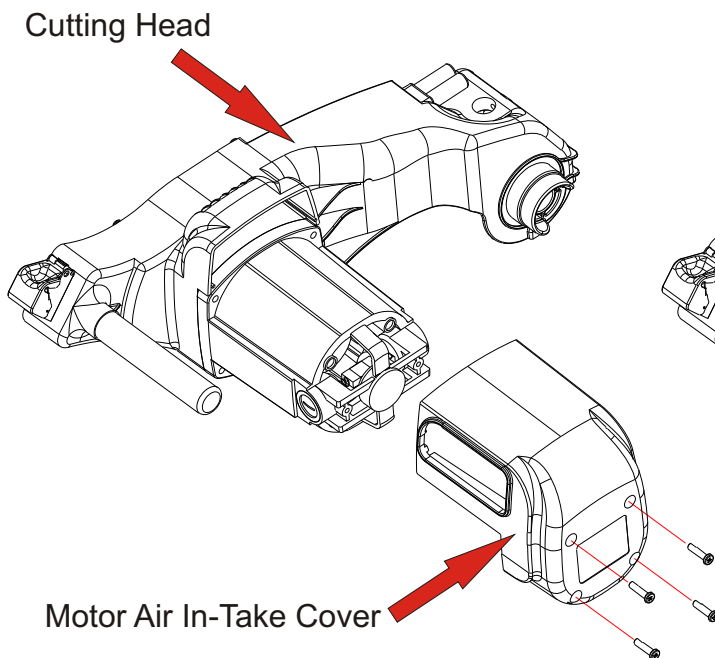

Figure 4-1: Motor Air In-Take Removal
3. Remove the four (4) Motor Air In-Take Cover mounting screws (see Figure 4-1: Motor Air In-Take Cover Removal).